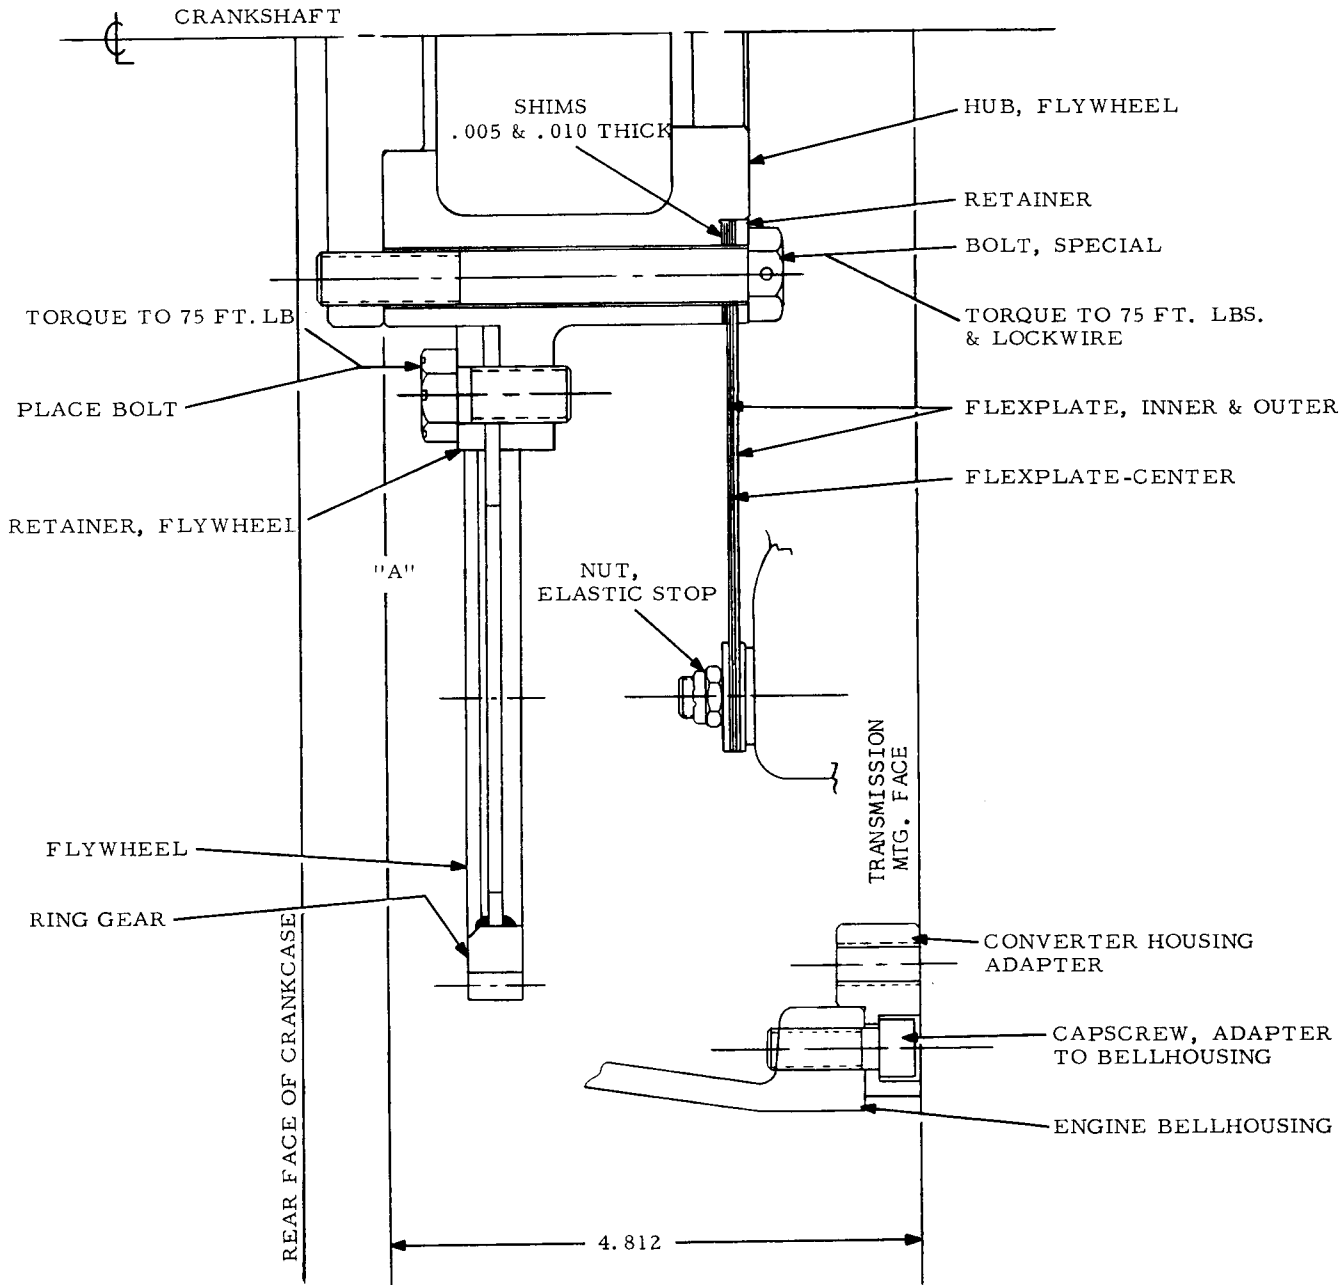

Fig. II-4 Torque converter drive—cross section
the flex plates are found to be damaged upon removal of the transmission, the crankshaft endplay must be checked and shimmed as required. When a change in the shim pack is required, 0.005-inch and 0.010-inch shims should be used. Inspect the three flex plates for cracks or ripples in the plate. Use retainer (fig. II-4) under the long capscrews used to hold flex plates and adapter to the engine crankshaft.
b. Transmission Flex Plate Drive Check. Before mounting the hub, pull the engine crankshaft outward toward transmission and measure the distance from Surface "A" (fig. II-4) to the transmission mounting flange surface. This nominal dimension should be 4.812 inches. If the measurement coincides with this, the nominal shim pack of 0.030 inches should be placed under the flex plates in the assembly as shown. If the measured dimension is greater than 4.812 inches, shims (equal to the difference between the measured dimension and 4.812 inches) should be added to the nominal 0.030-inch shim pack. If the dimension is less than 4.812 inches, subtract the difference from the nominal 0.030-inch shim pack. Figure II-4 shows the torque value to apply to the capscrew holding the retainer, flex plates, shims, and hub to the engine crankshaft.
e. Using a flashlight and a ratcheting 9/16 box end wrench, install the elastic stop nuts (fig. II-4) to hold the flex plate drive to the converter input drive.